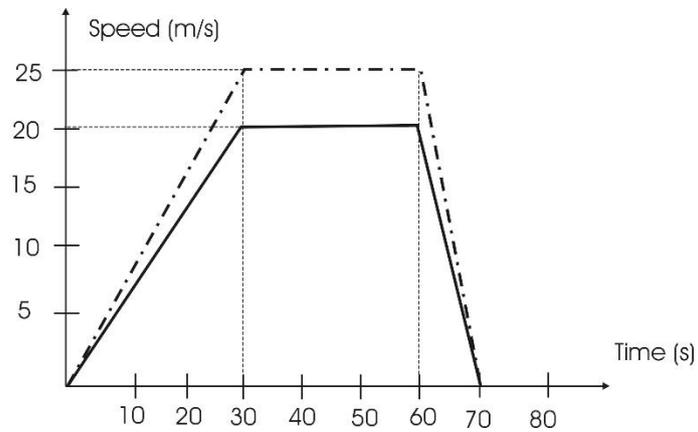

Figure 3: Driving cycle 2
5. To study the effect of driving aggressiveness on fuel consumption, consider the cycles in Figure 3. Compare the increase in fuel consumption if the maximum plateau speed varies between 15 m/s, 20 m/s, 25 m/s, and 30 m/s.